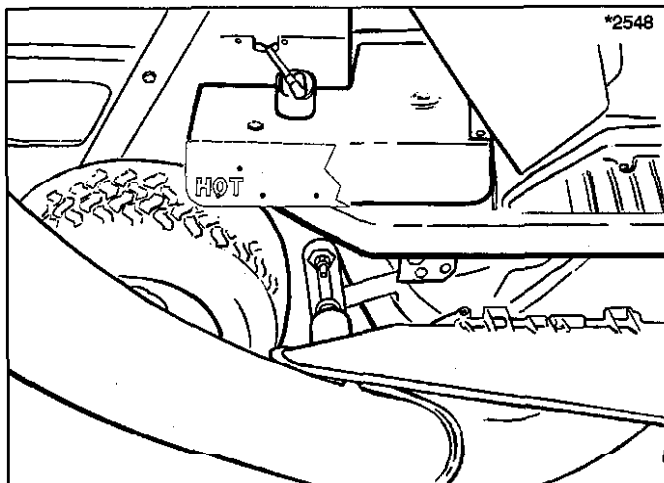

Figure 1. Placing Template for drilling holes
2. See figure 1. Cut out the template below and place it on the duct with the edges aligned. Tape the template in place and drill out the holes as indicated using a $\frac{13}{64}$ " drill bit.